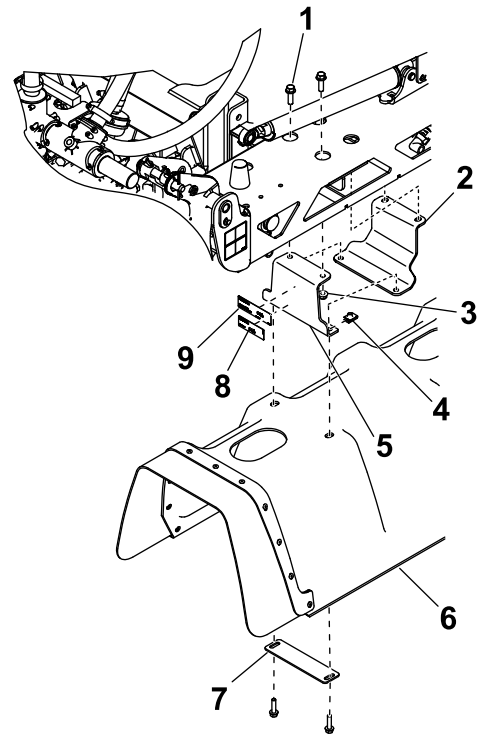

Figure 8
Attach the model/serial number decal and the regulatory decal to 1 of the center boom brackets as shown in Figure 8.
1. Install each of the 2 center brackets and boom-mount plates to the center boom using 2 hex-head bolts (3/8 x 1-1/4 inch) and 2 flange nuts (3/8 inch) as shown in Figure 8.
2. Install the center cover to the center-boom brackets using 4 U-nuts, 2 washer plates, and 4 hex-head bolts (5/16 x 1-1/4 inch) as shown in Figure 8.